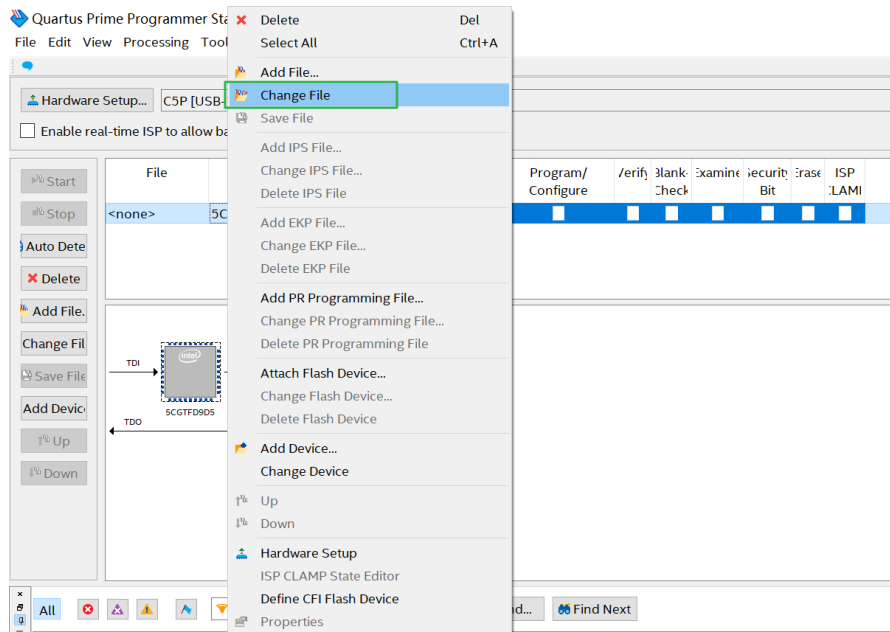

Figure 3-5 Open the .sof file to be programmed into the FPGA device
4. Right click on the FPGA device and select Change File to open the .sof file to be programmed, as highlighted in **Figure 3-5**.